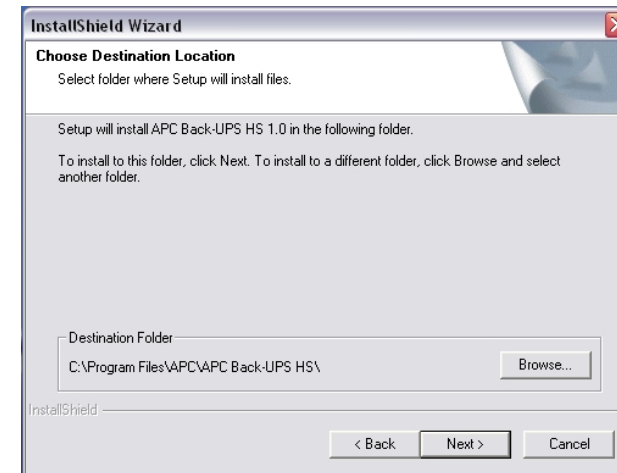
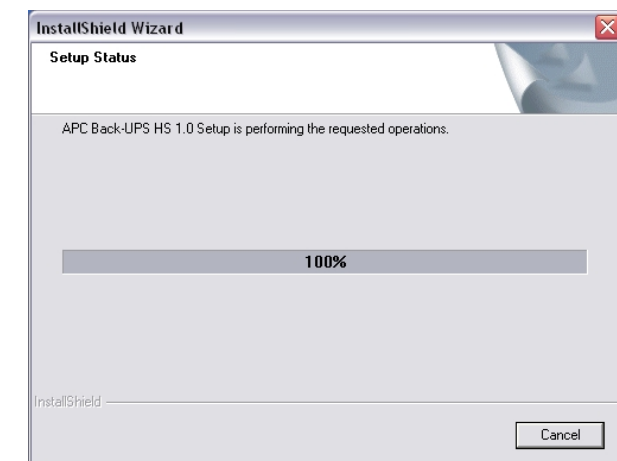

Figure 4. Choose Destination Location Screen
Figure 5. Setup Status Screen
5. The software will display the **Choose Destination Location Screen** (Figure 4). Select **Browse** to find a location, click **Next** to accept the system default location, the system will then display the **Setup Status Screen** (Figure 5). Click on **Cancel** to stop the installation.